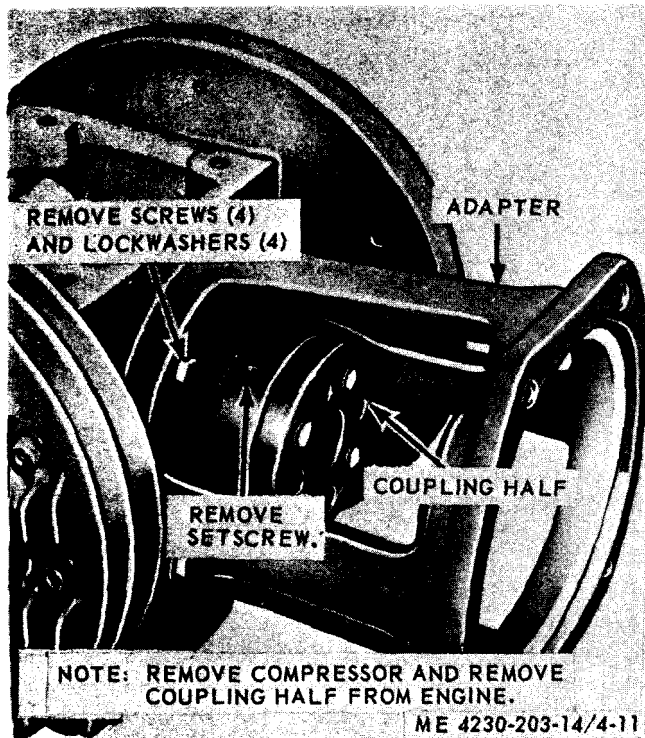

Figure 4-38. Coupling and adapter removal and installation.
- (1) Remove the compressor (para 4-39).
- (2) Refer to figure 4-38 and remove the coupling and adapter.
- (1) Refer to figure 4-38 and install the coupling and adapter.
- (2) Install the compressor (para 4-39).